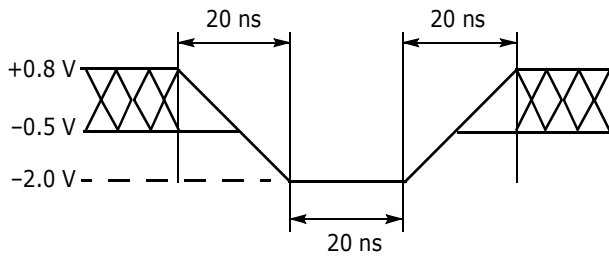
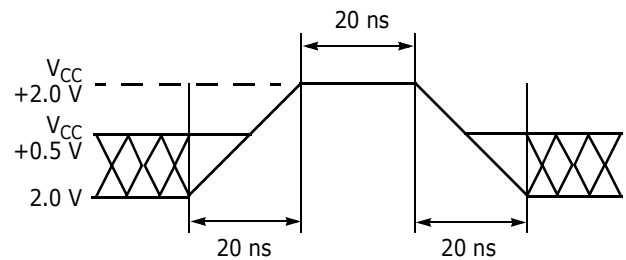

Figure 7. Maximum Negative Overshoot Waveform
Figure 8. Maximum Positive Overshoot Waveform
1. Minimum DC voltage on input or I/Os is -0.5 V. During voltage transitions, inputs or I/Os may overshoot VSS to -2.0 V for periods of up to 20 ns. See Figure 7. Maximum DC voltage on input or I/Os is VCC + 0.5 V. During voltage transitions, input or I/O pins may overshoot to VCC + 2.0 V for periods up to 20 ns. See Figure 8.
2. Minimum DC input voltage on pins A9, OE#, ACC, and RESET# is -0.5 V. During voltage transitions, A9, OE#, ACC, and RESET# may overshoot VSS to -2.0 V for periods of up to 20 ns. See Figure 7. Maximum DC input voltage on pin A9, OE#, ACC, and RESET# is +12.5 V which may overshoot to +14.0V for periods up to 20 ns.